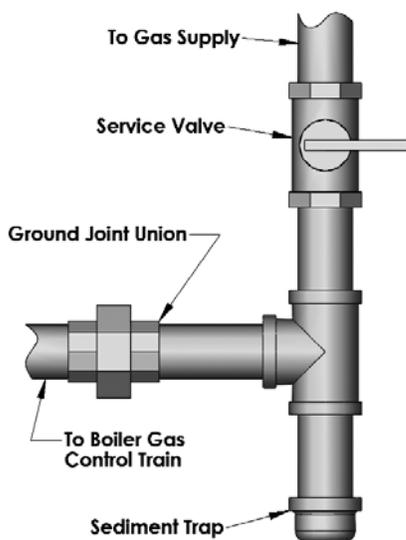

Figure 4.1: Gas Supply Piping – Sediment Trap
2. Install a sediment trap as shown in Figure 4.1. Be sure to allow clearance from the floor for removal of the pipe cap.
4. Install a service valve as shown in Figure 4.1 to allow the gas supply to be interrupted for service.
7. Figure 11.1 shows the gas shutoff valve (item 8) for the Pinnacle Boiler. This valve is to be used in addition to the gas service valve shown in Figure 4.1.